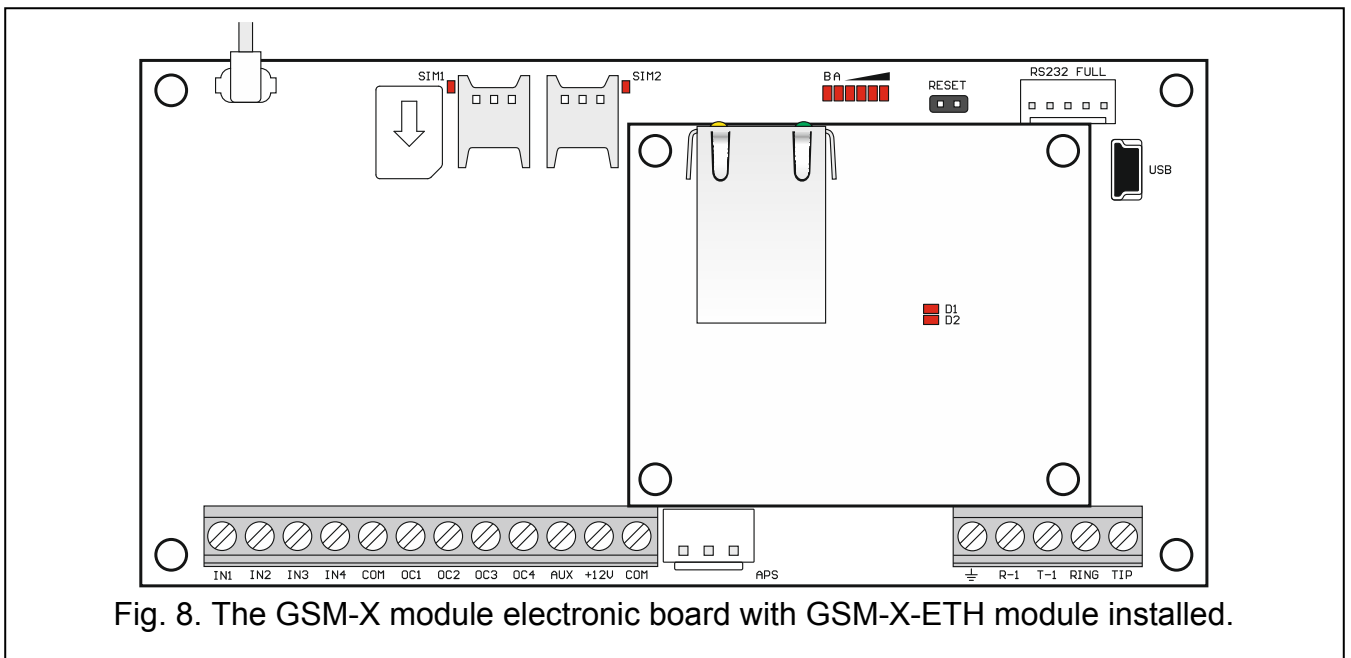

Fig. 8. The GSM-X module electronic board with GSM-X-ETH module installed.
3. Install the GSM-X-ETH Ethernet module in the connectors on the GSM-X module electronics board (Fig. 8).